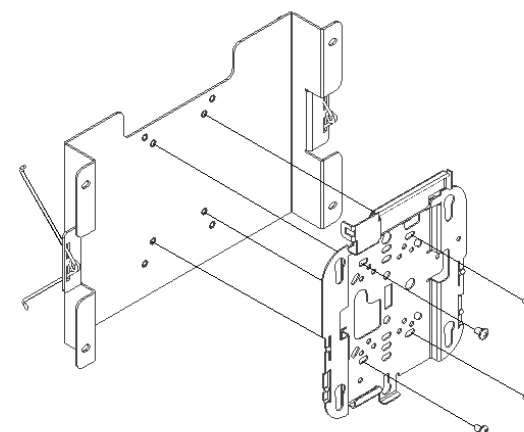

Figure 5 - Reattach Mounting Plate to Trim
Step 5 - Attach the Cisco AIR-BRACKET-1 or Air-BRACKET-2 to the Oberon mounting bracket by using the supplied #8-32 screws. The AIR-BRACKET-1 is attached to the outer set of threaded holes and the AIR-BRACKET-2 is attached to the inner set of threaded holes, as shown (Figure 5).